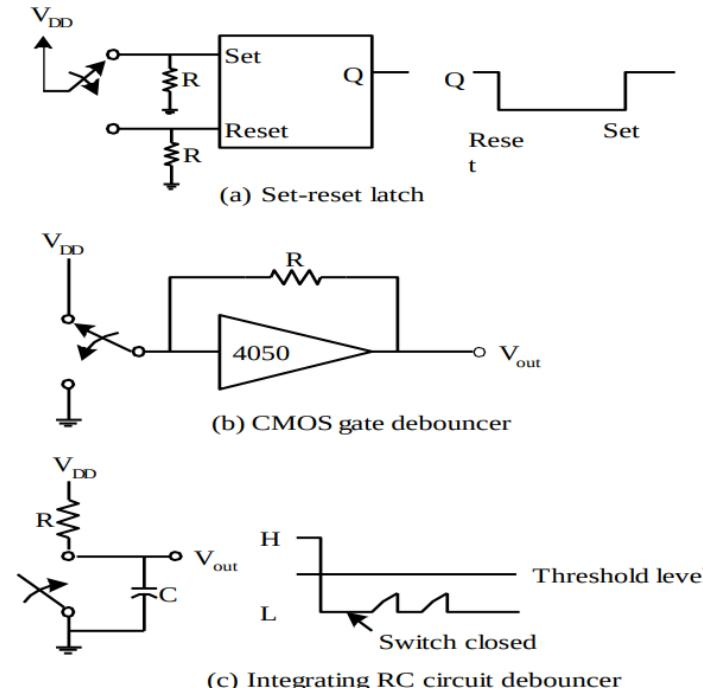

Figure 7.27 Hardware debouncing techniques
- Three hardware debouncing techniques are shown in Figure 7.27.